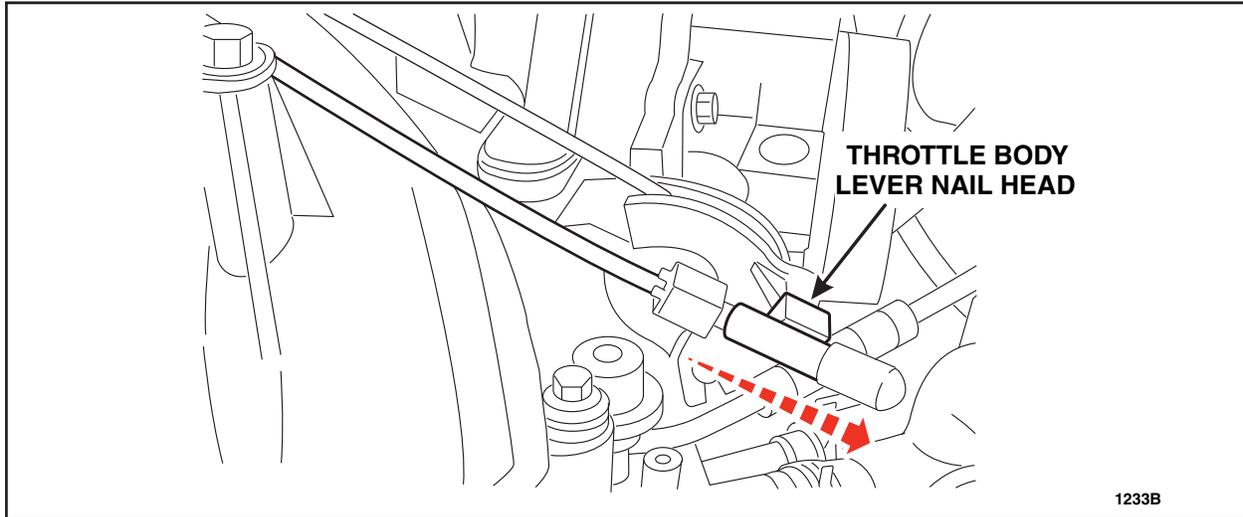

FIGURE 2
2. Slide the speed control cable off of the throttle body lever nail head. See Figure 2.